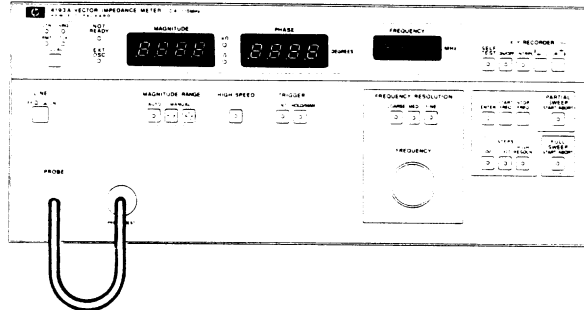

Figure 4-1. Initial Operation Check Setup.
1. Insert the probe into the PROBE REST as shown in Figure 4-1.